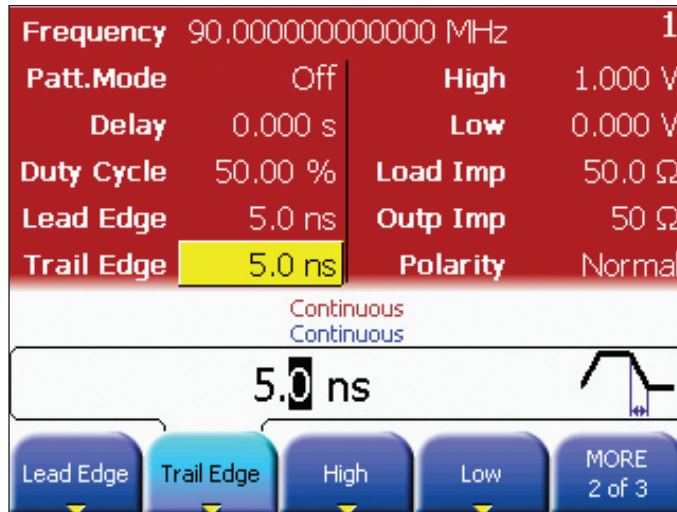

Figure 6. Step 3.
**STEP 3.** Set channel 1, as shown in Figure 6.